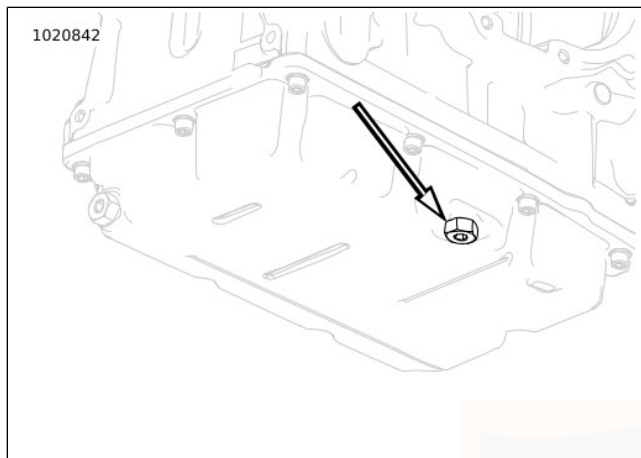

Figure 57. Transmission Drain Plug
2. See Figure 57. Remove transmission drain plug. Drain transmission.